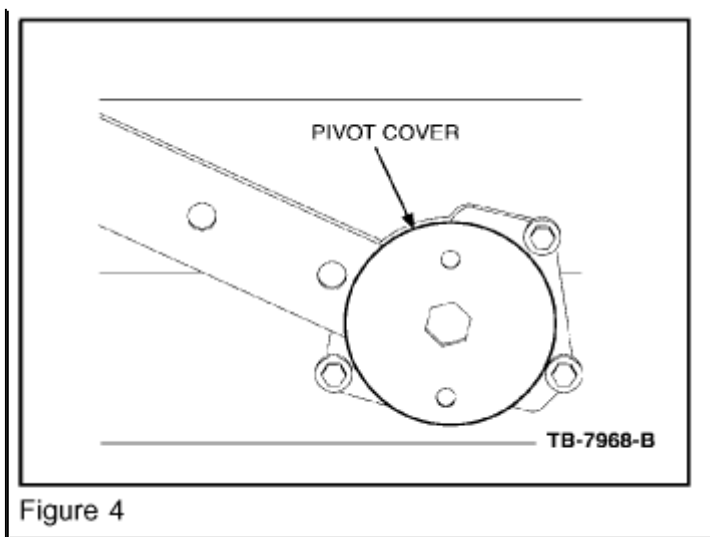

Figure 4
3. Remove the three (3) outer pivot cover screws and the outer pivot cover (Figure 4).